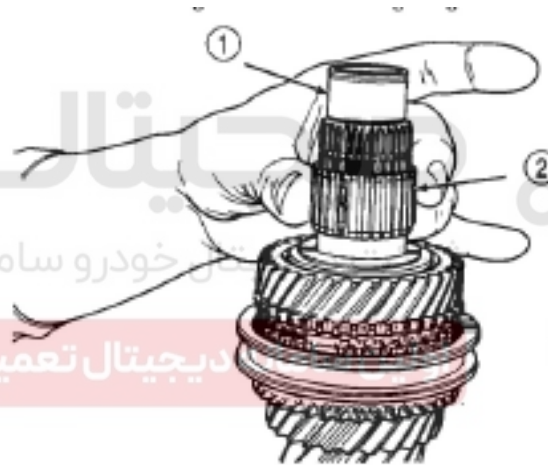

Figure 3-125 Disassembly of needle bearing
(3) Remove the caged needle bearing (Figure 3-125).